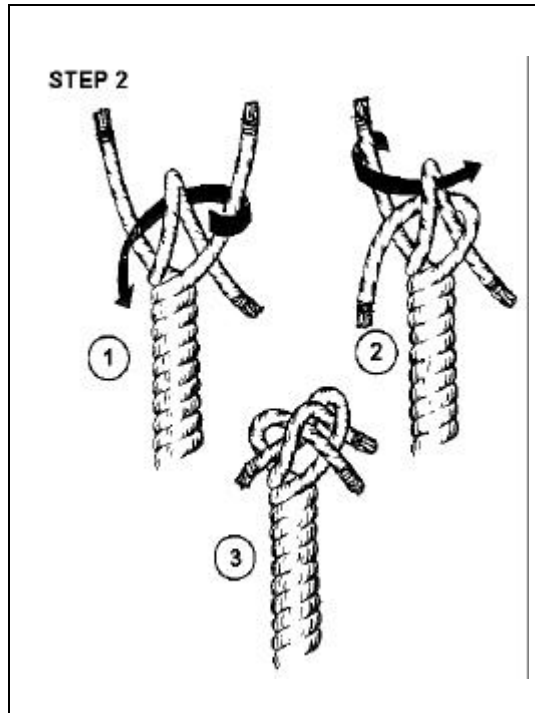

Figure 12-25. Making a Back Splice, Step 2
- **Step 2.** To start the crown knot, form a bight with the left strand and lay the bitter end of the strand between the right and center strand. Then lay the center strand over the running end of the left strand. Take the right strand under the running end of the left strand, over the running end of the center strand, and back through the bight of the left strand. Then take all the slack out of the strands and gently pull the strands tight (Figure 12-25, page 12-22).